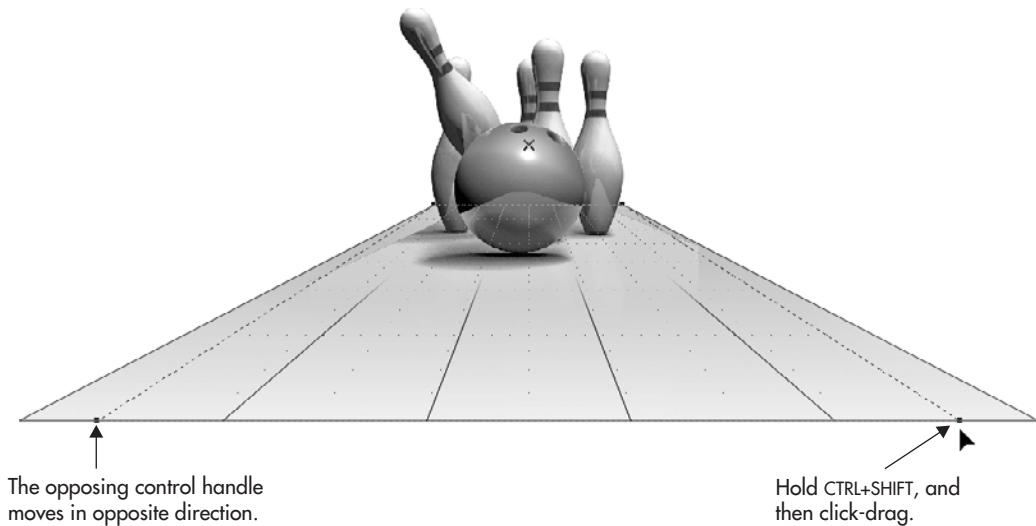

FIGURE 18-5 Create symmetrical perspective by holding CTRL+SHIFT while you drag a control handle.
5. While holding CTRL+SHIFT, click the bottom-right control node and then drag right. Strike! In Figure 18-5 you can see that this technique is a convenient way to set up symmetrical perspective. Optionally, you might want to use CTRL+SHIFT and then drag the top control nodes a little closer together to get the artistic effect, but you know the techniques now.